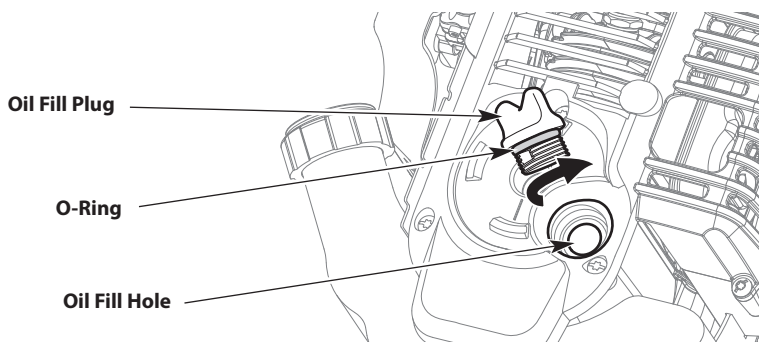

Fig. 23
3. Clean the area around the oil fill plug (Fig. 23) to prevent debris from entering the oil fill hole (Fig. 23).
7. Make sure the O-ring is in place on the oil fill plug (Fig. 23).
1. Clean the area around the oil fill plug (Fig. 23) to prevent debris from entering the oil fill hole.
5. Pour 3.04 fl.oz. (90 ml) of SAE 30 oil into the oil fill hole (Fig. 23).